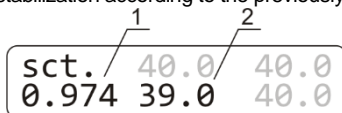

Figure 5. Changing the coefficient:
- 6.4.6. Using the **▲** and **▼ T, °C** keys, change the calibration coefficient (fig. 5/1) so that the new temperature value (fig. 5/2) corresponds to the independent sensor temperature. In our example, the calibration coefficient will be 0.974.